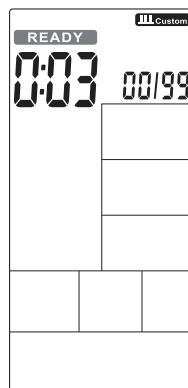

FIGURE 35
- The time counts down from 3 to 0 and then the console starts up, while an audible alert sounds per second and READY flashes once per second, the countdown displays '00/XX' (Figure 35).